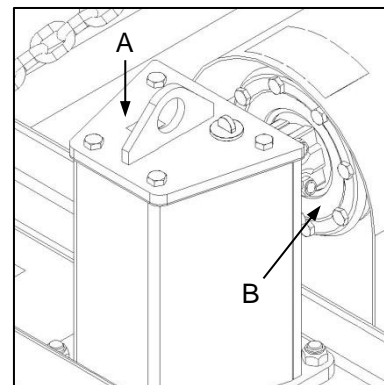

Fig. 6
- ✔ Discolouration or blistering of painted surfaces of the friction clutch housing (Fig. 6-B).
- ✔ The friction clutch housing feels significantly hotter than the surface of the gearbox casing (Fig. 6-A).
- ✔ Verkleuring of blaasvorming van geverfde oppervlakke van die wrywingkoppelaaromhulsel (Fig. 6-B).
- ✔ Die wrywingkoppelaaromhulsel voel beduidend warmer as die ratkasomhulsel (Fig. 6-A).